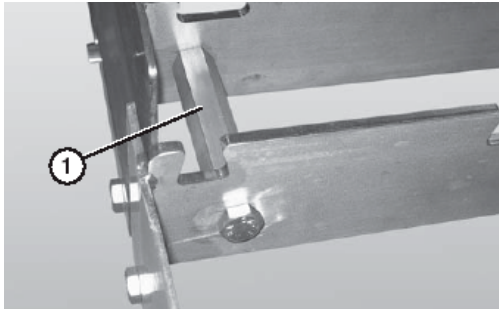

Figure 5
4. Connect the frame sections by bolting the hex post connectors (Figure 5, item 1) to the sections of frame.